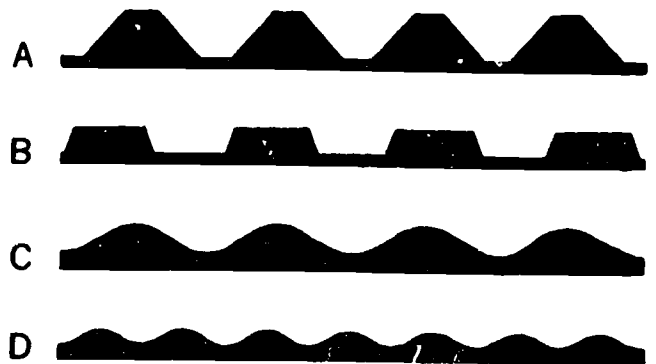

Figure 22. Rubber Seals
A solid rubber seal is used to make a waterproof joint where ribbed panels overlap a smooth surface. Figure 22 (A, B, C and D) shows the shape of the rubber seals used with roof and wall galvanized sheet metal panels (A), aluminum ribbed panels (B), asbestos-cement panels (C), and corrugated glass panels (D). These seals are placed under the panel to prevent moisture from getting between the panel and the smooth surface.